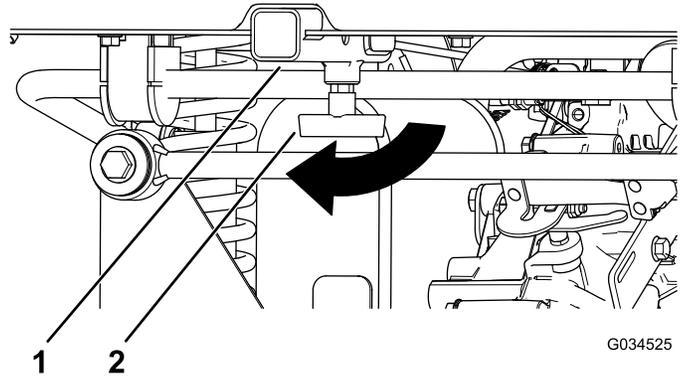

Figure 17
1. Loosen the “T” handle by rotating it clockwise (Figure 17).
2. Insert your accessory into the receiver until the holes align (Figure 17).